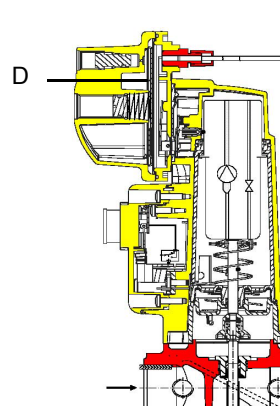

Fig. 7
**Caution:** the SKP2 diaphragm **D** must be vertical (see Fig. 7).